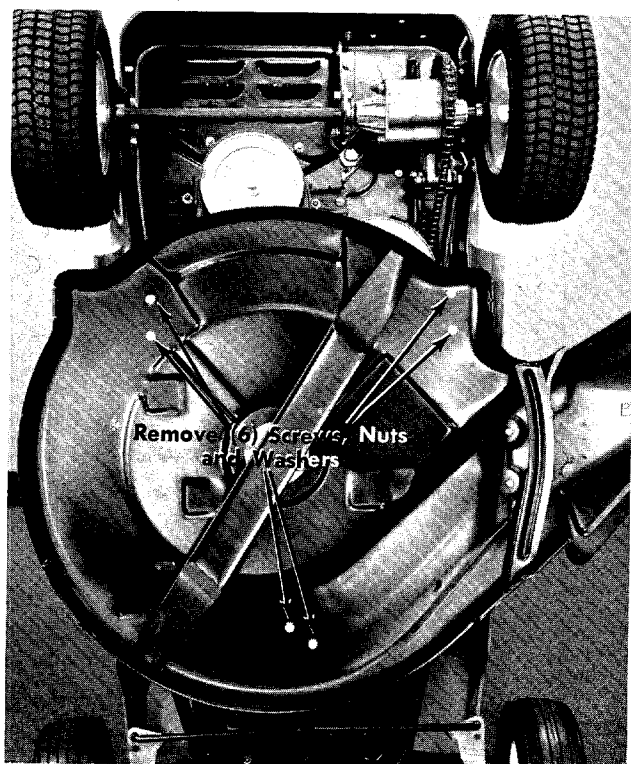

FIGURE 21. DECK REMOVAL
- Step 3. Remove six hex screws, nuts and lockwashers holding the deck. See figure 21.